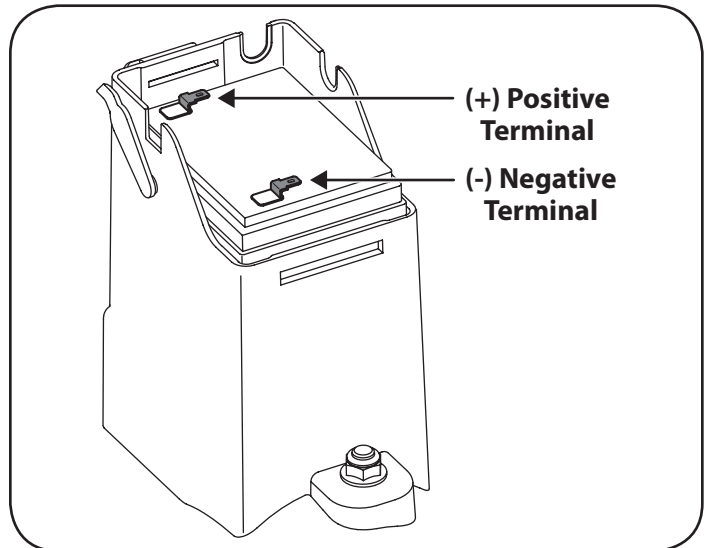

Figure 20
3. Replace with new battery. Connect the positive lead (red) to the positive side of the battery pack, then connect the negative lead (black) to the negative side. See Figure 20.